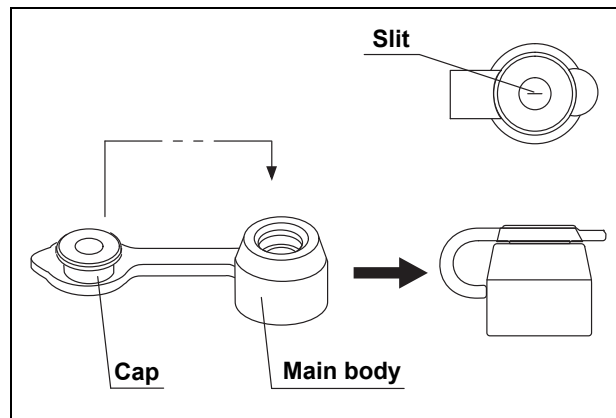

Figure 3.5
2. Attach the cap to the main body (see Figure 3.5).